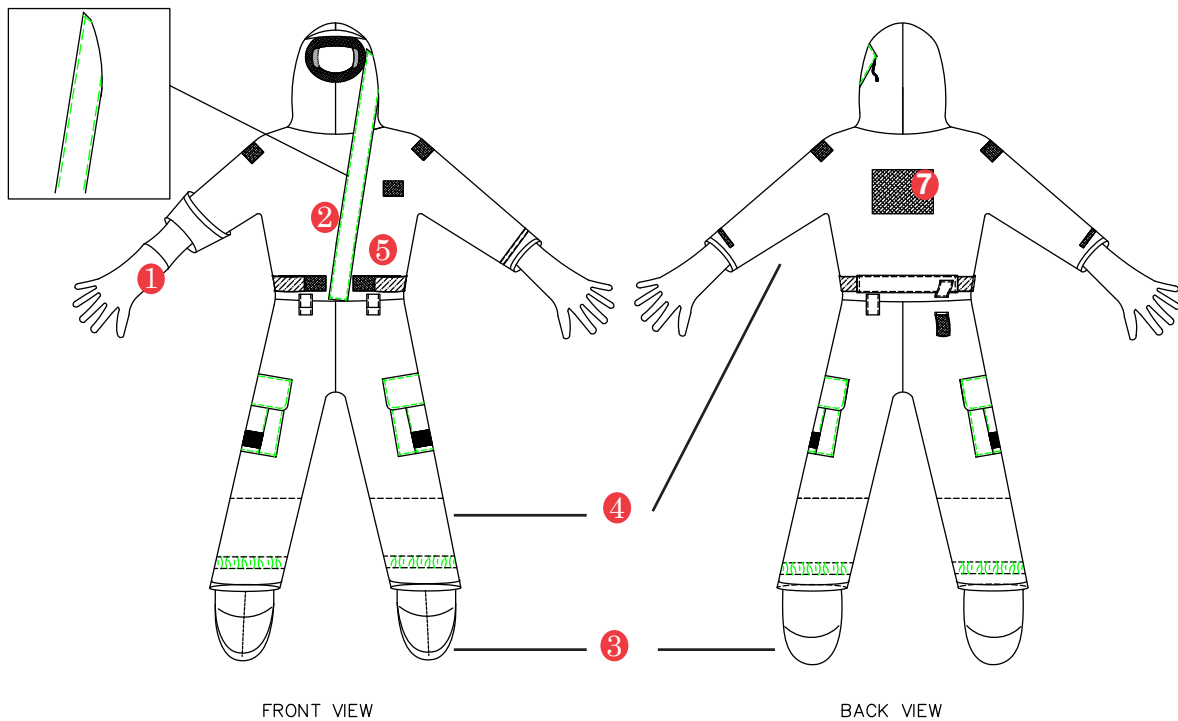

FIG. 2B
Attached Glove System: ❶ An inner glove and outer-glove system. Depending on which model you have, your inner glove would either be sewn on; OR be attachable via glove ring system. The inner glove provides limited chemical and biological protection to your hands and wrists. The removable outer glove is designed to provide limited protection from debris and flash fire as well as from cuts and abrasion. (See also FIG. 2B; FIG. 2C.)
- B. Glove attachment (FIG. 2B; FIG. 2C) - Examine all interface areas for signs of wear, deterioration, cracking, splitting and discoloration as these are indications of potential failure and indicate a repair is required.
- C. Number of Uses: Inspect Garment for number of uses marked on the Danger/Cleaning Label. After a maximum of five (5) launderings, the Garment should be retired or be carefully inspected for retirement considerations.